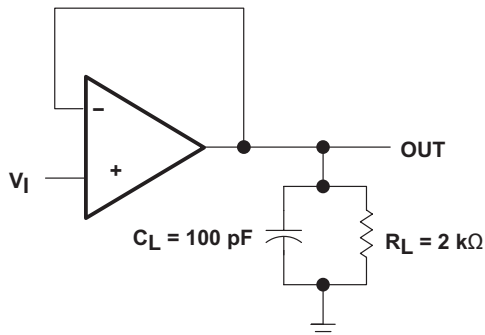

Figure 19. Test Figure 1
$V_I = 10 \text{ V}$ , $R_L = 2 \text{ k}\Omega$ , $C_L = 100 \text{ pF}$ , $T_A = -55^\circ\text{C}$ to $125^\circ\text{C}$ , See Figure 19	5 (1)